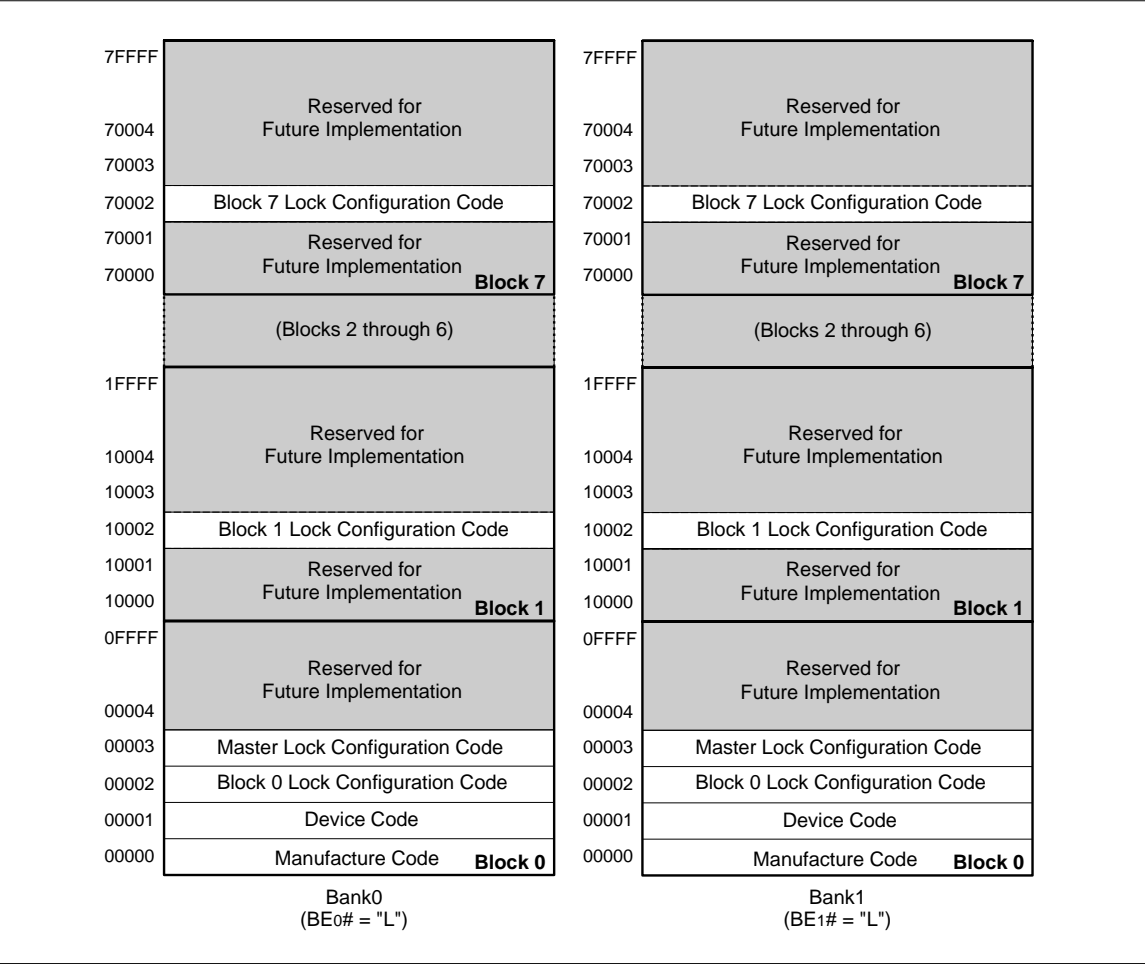

Fig. 2 Device Identifier Code Memory Map
The read identifier codes operation outputs the manufacture code, device code, block lock configuration codes for each block, and the master lock configuration code (see Fig. 2). Using the manufacture and device codes, the system CPU
IA = Identifier code address : see **Fig. 2**.
The identifier code operation is initiated by writing the Read Identifier Codes command. Following the command write, read cycles from addresses shown in **Fig. 2** retrieve the manufacture, device, block lock configuration and master lock configuration codes (see **Table 4** for identifier code values). To terminate the operation, write another valid command. Like the Read Array command, the Read Identifier Codes command functions independently of the VPP voltage and RP# can be V_{IH} or V_{HH}. Following the Read Identifier Codes command, the following information can be read :
1. X selects the specific block lock configuration code to be read. See **Fig. 2** for the device identifier code memory map.